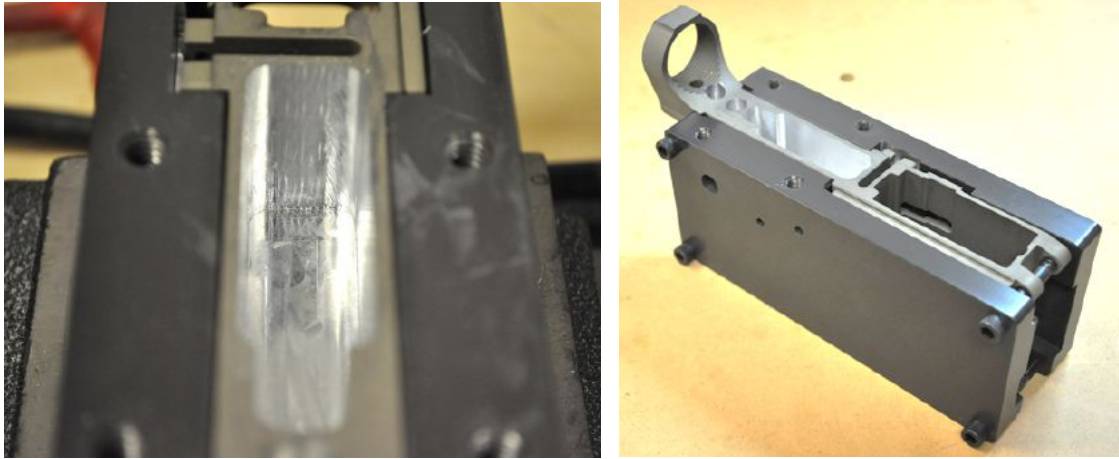

Figure 3.12: Finished trigger pocket to a depth of 1.249"
- After the roughing polygon has been formed, execute the final finishing pass (see figure 3.12)